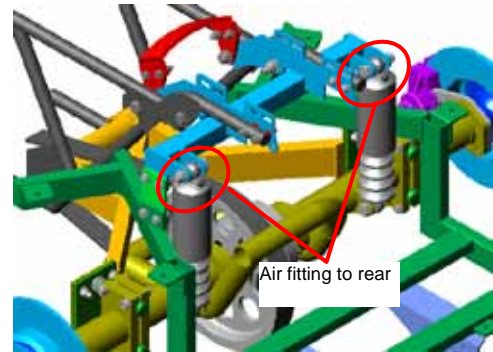

Figure 42
- a. Install OEM shock absorbers (air line fitting to rear) between rear end assembly and Shock Mount. Figure 42